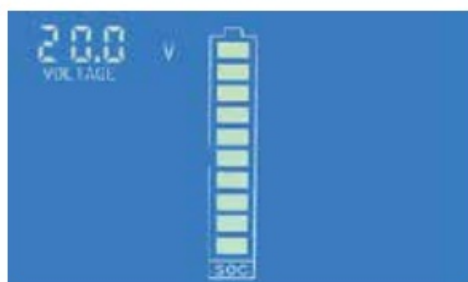
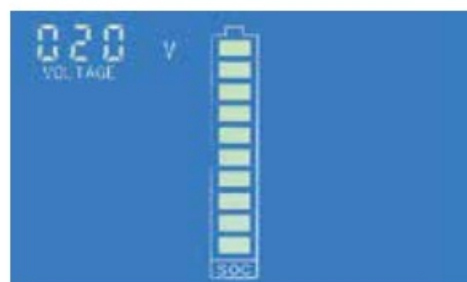

Figure 3: full voltage setting interface (low bit)
Figure 4: full voltage setting interface (high bit)
2. SET character blink present it is the setting status of full / cut-off voltage, long press the button until the LCD screen displays the interface like fig. 3, then release the button
full voltage is 020.0V, the numerical code circulation flashing from the low bit to the high bit show that the current setting digit, short press to set the digit; please pay attention that, as the full voltage setting value has 4 digit, but the numerical code has only 3 digit, So the setting is divided into two parts: low bit (fig. 3) thigh bit (fig. 4). For example, the default full voltage is 020.0V, then the display state is 20.0V to 020V low and high cyclic switching display. If you need to set the full voltage is 199.0V, then please set the low bit to 99.0V, when the cycle reaches the high bit, it will display 099V, and only the highest zero bit flicker to prompt it can be setted. Setting the high bit to 199V represents the full voltage is 199.0V.